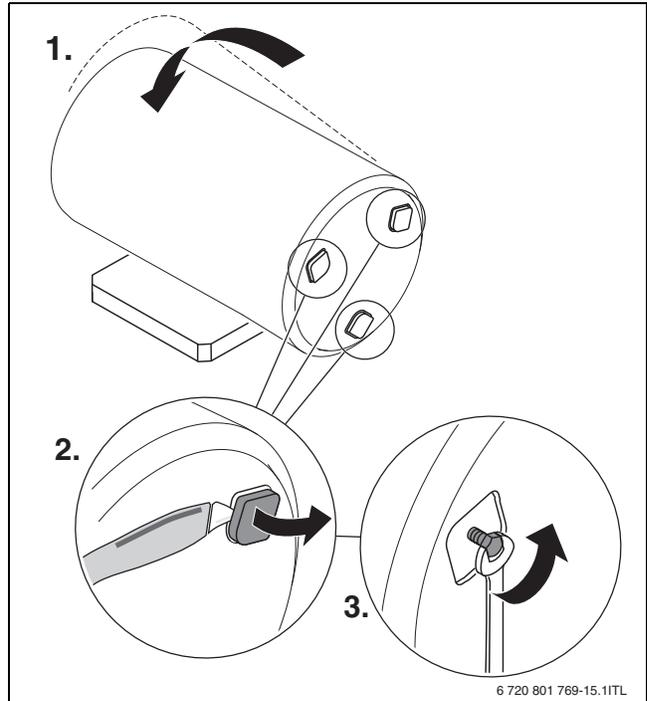

Fig. 7 Laying the tank on its side and exposing the adjustable feet
- ▶ Carefully lay the tank on its side (→ Fig. 7, [1]).
- ▶ Cut out the projections in the foam bottom (→ Fig. 7, [2]).